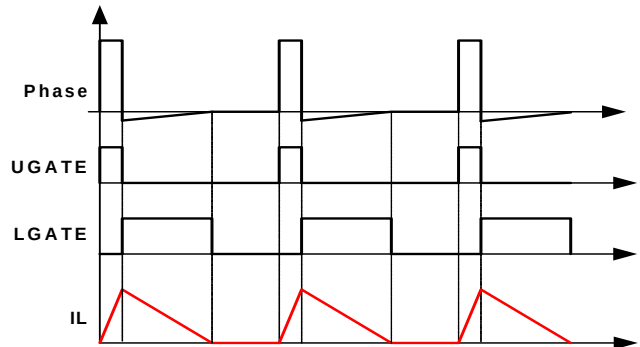

FIGURE 7. DIODE EMULATION
ISL95839 can operate in diode emulation (DE) mode to improve light load efficiency. In DE mode, the low-side MOSFET conducts when the current is flowing from source to drain and doesn't allow reverse current, emulating a diode. As Figure 7 shows, when LGATE is on, the low-side MOSFET carries current, creating negative voltage on the phase node due to the voltage drop across the ON-resistance. The controller monitors the current through monitoring the phase node voltage. It turns off LGATE when the phase node voltage reaches zero to prevent the inductor current from reversing the direction and creating unnecessary power loss.
If the load current is light enough, as Figure 7 shows, the inductor current will reach to zero before the next phase node pulse and the regulator is in discontinuous conduction mode (DCM). If the load current is heavy enough, the inductor current will never reach 0A, and the regulator is in CCM although the controller is in DE mode.